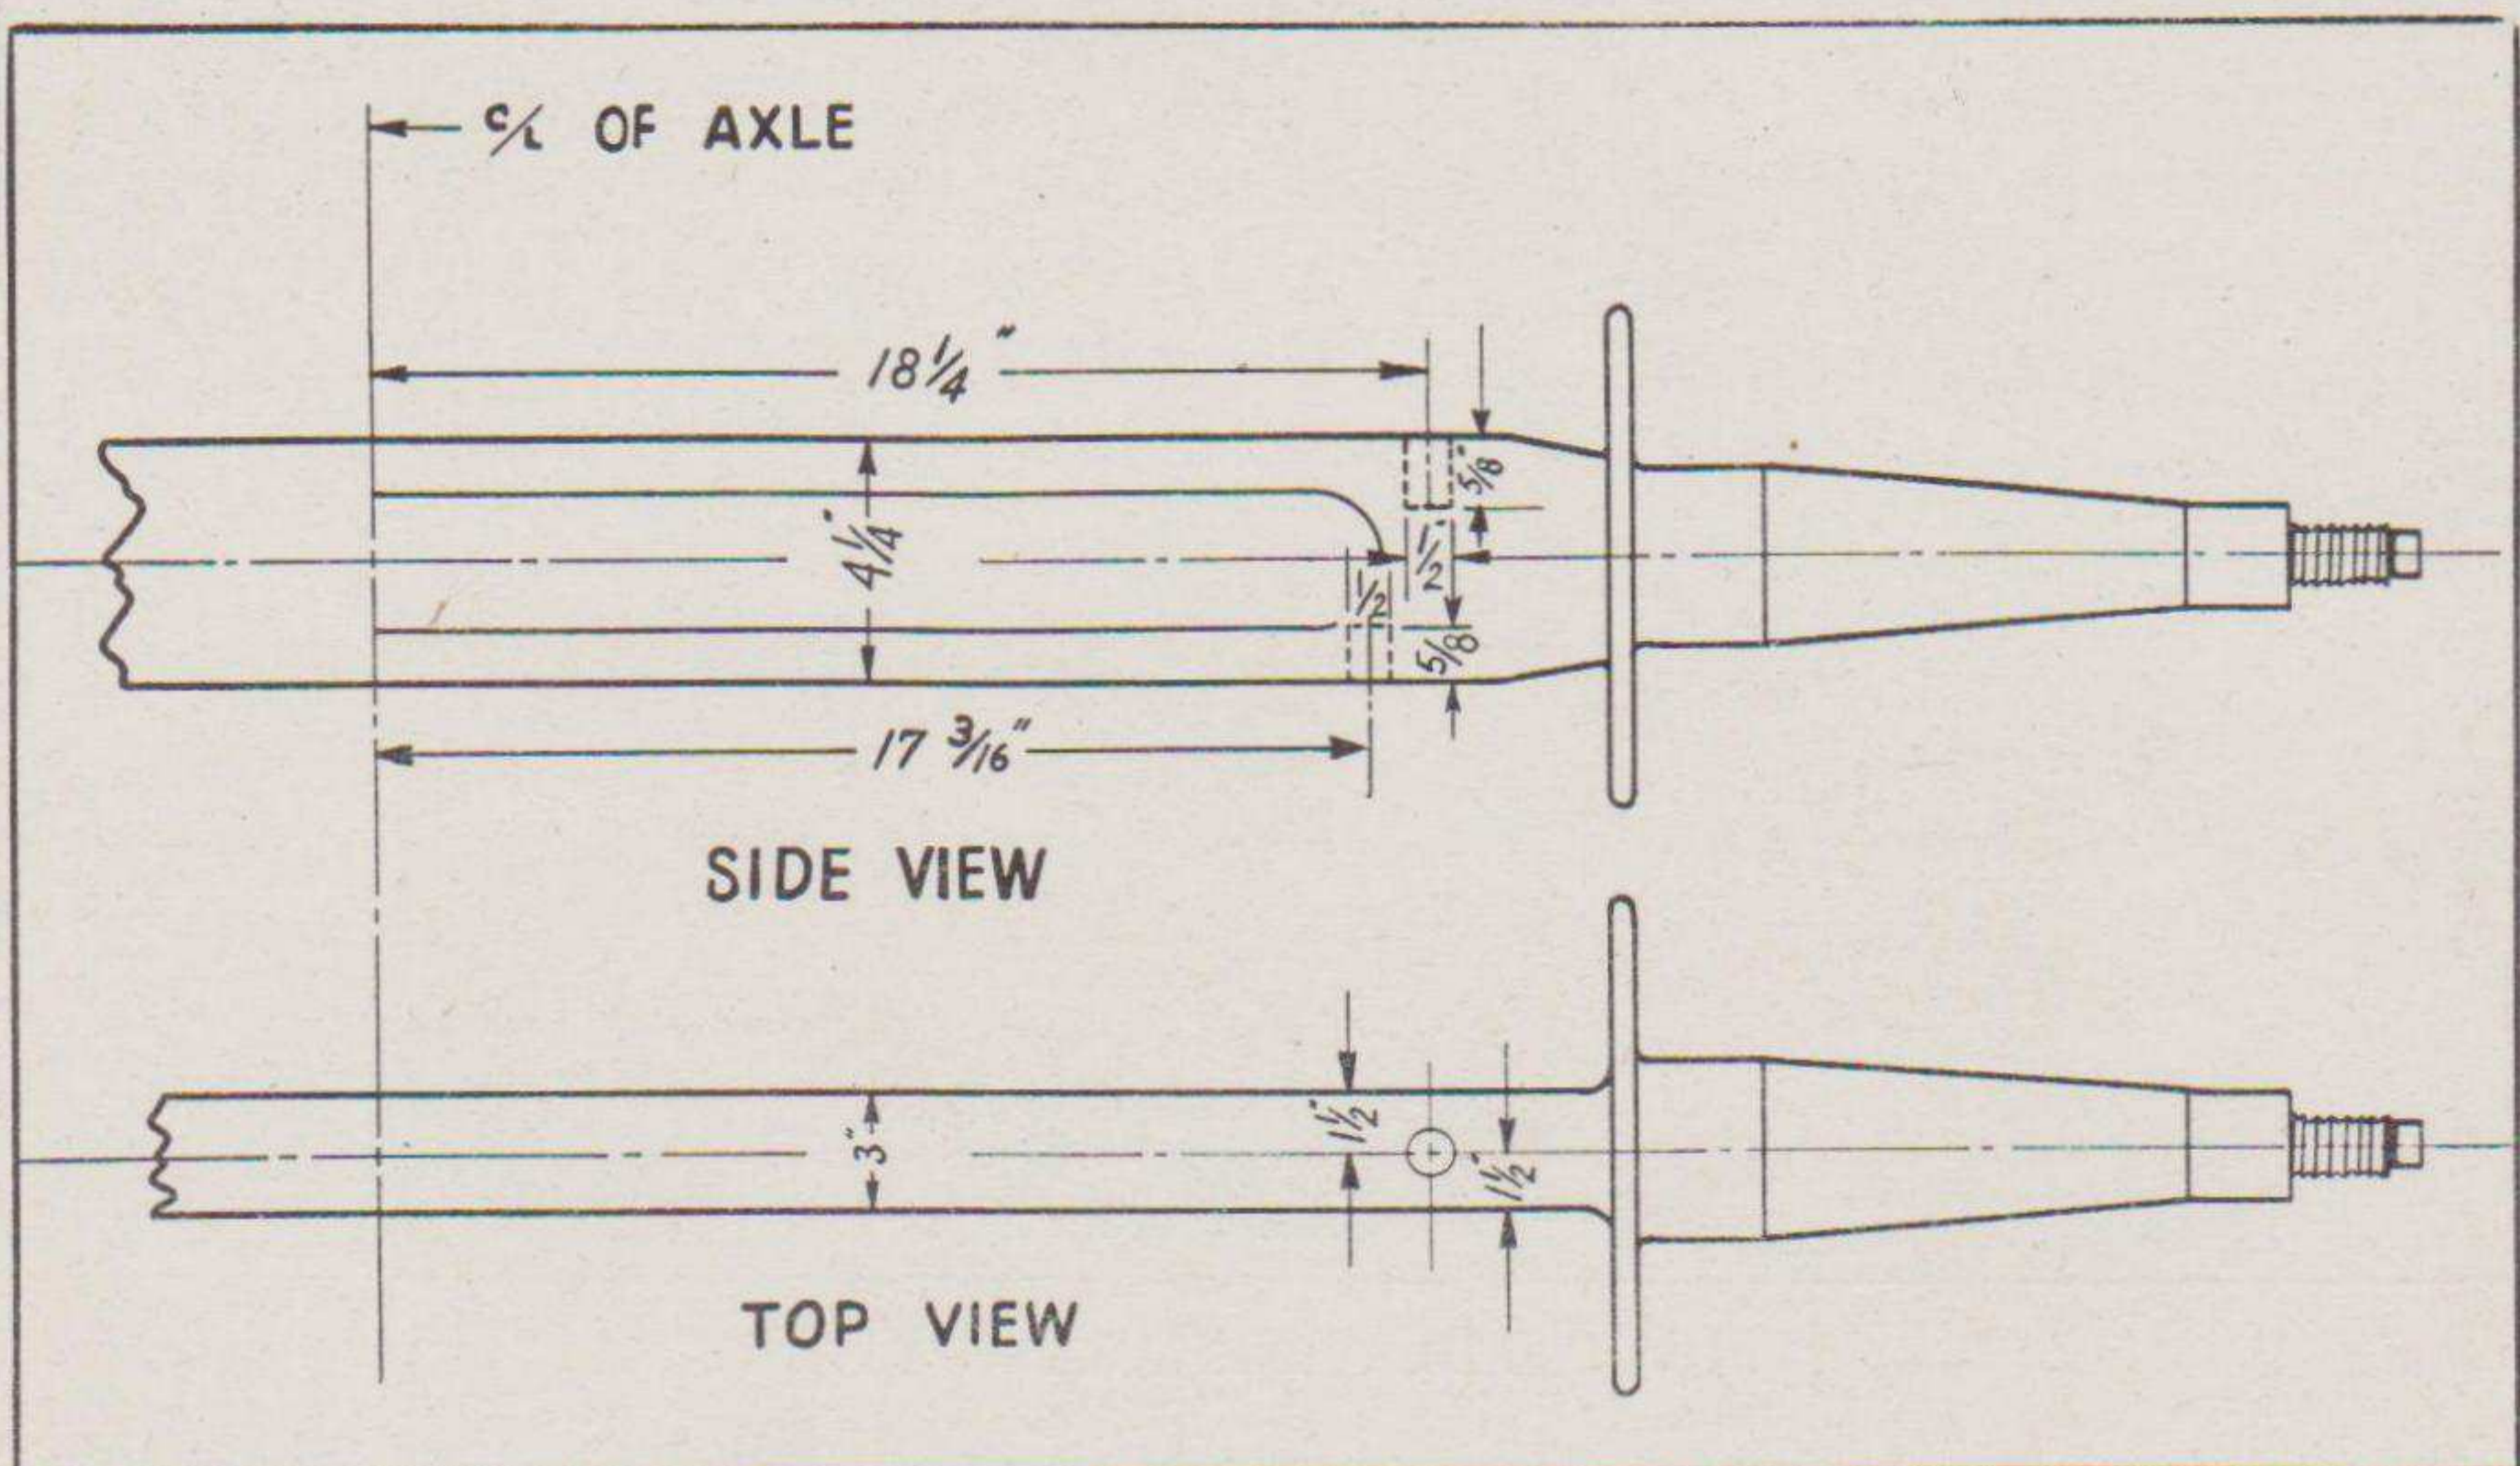

FIGURE 12. AXLE LAYOUT DIAGRAM
7. DRILLING DOWEL PIN HOLES IN REPLACEMENT AXLES (Refer to Figure 12).